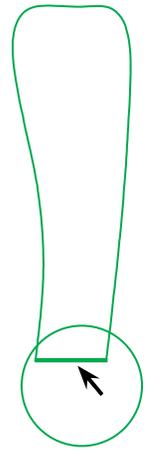

Fig. 13
Step 2. Sketch line across endpoints of spline, **Fig. 13**.